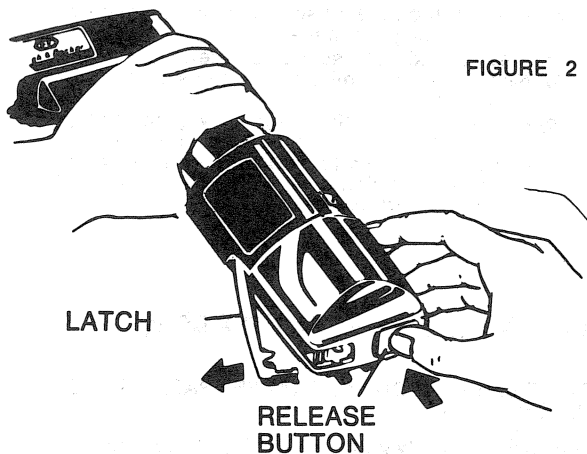
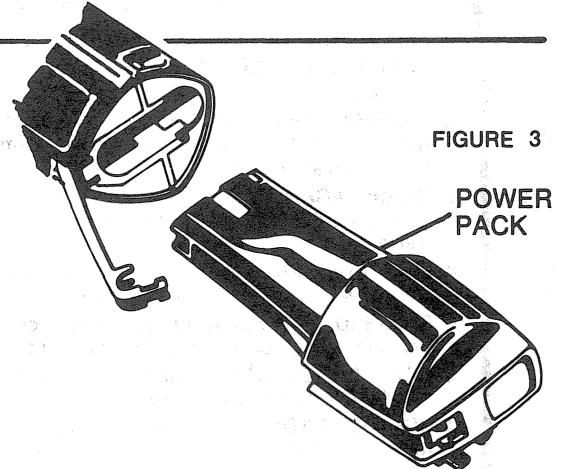

FIGURE 2
FIGURE 3
2. Remove Power Pack from Tool Handle by first pressing Release Button (Figure 2). The Latch will spring open and allow Power Pack to be withdrawn from handle (Figure 3).